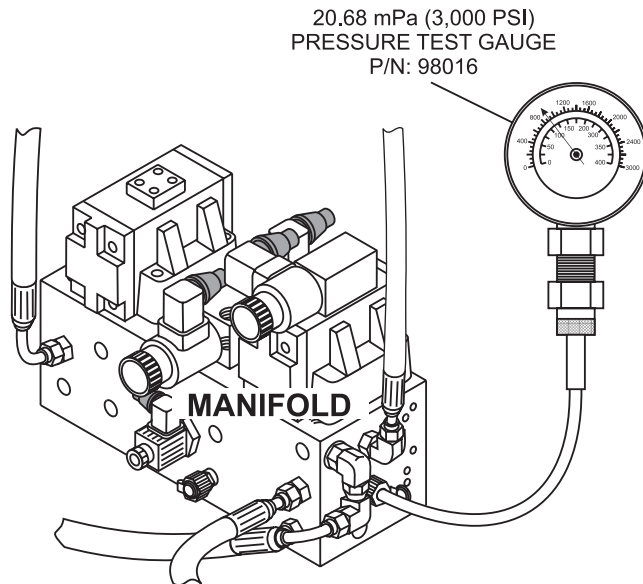

Figure 55. Accumulator Circuit Pressure Test Gauge
1. Attach a **20.68 mPa (3,000 psi) test gauge** (Mayco P/N 98016) to port **G2** of the main manifold block (Figure 55).